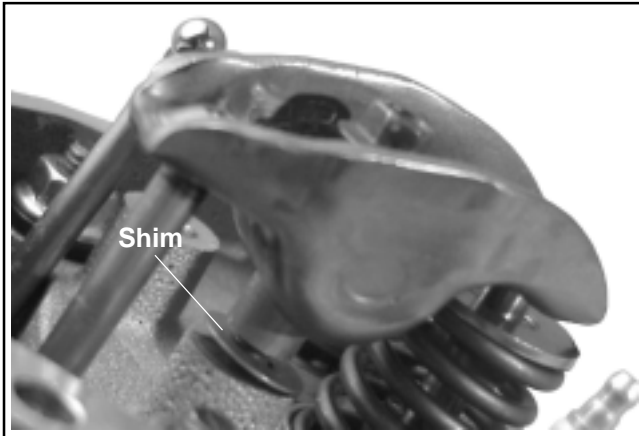
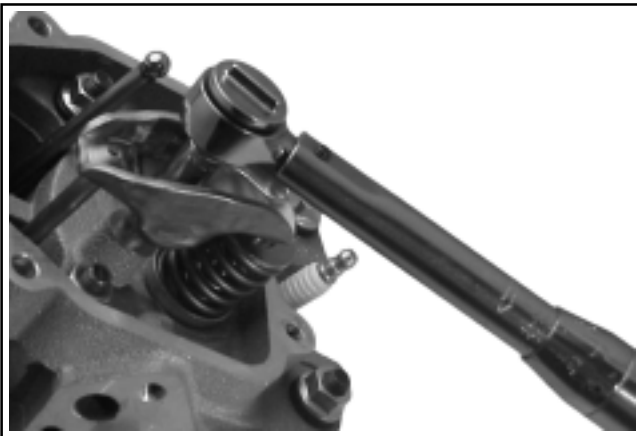

Figure 11-36. Installing Shim(s).
Figure 11-37. Torquing Rocker Arm.
14. Reassemble the rocker arm and pivot assembly (with shims) to the head (see Figure 11-36) and seat the push rod. Torque the fastener; **11.3 N·m (100 in. lb.)** for a hex. flange screw, or **17.3 N·m (153 in. lb.)** for a lock nut. See Figure 11-37.